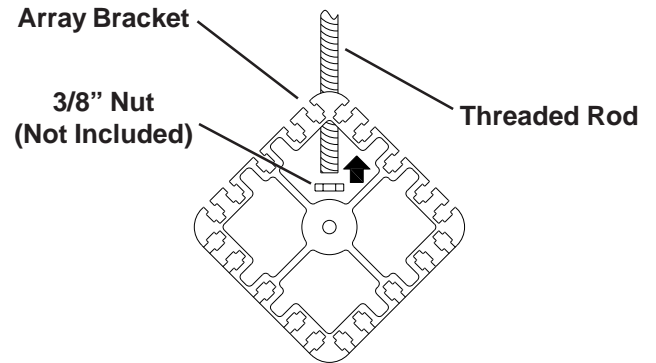

Figure 7b:
2. Apply non-permanent threadlocker, such as Loctite 242, to the 3/8" threaded rod and fasten the nut to the threaded rod unit it touches the array bracket (Figure 7b). Check to ensure that all threads on the nut are engaged to the threaded rod.